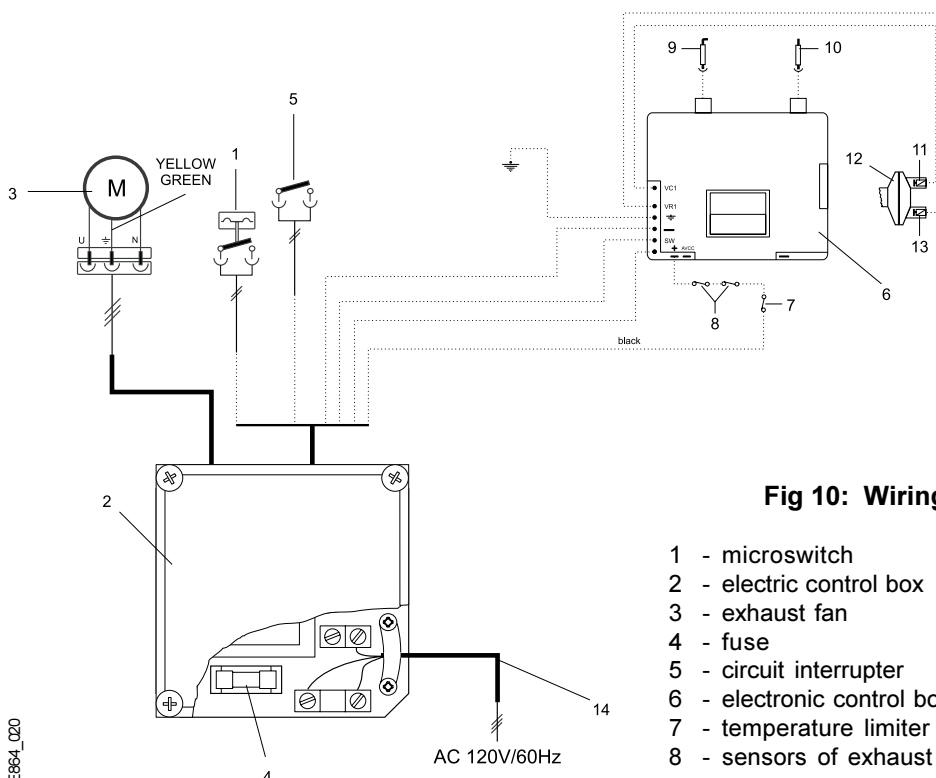

Fig 10: Wiring Diagram for AQ 125FX
- The heater is wired as shown in the wiring diagram. (Fig 10).
Check the viability of the fuse (see Fig 10 (#4) for location of fuse). Replace if necessary.